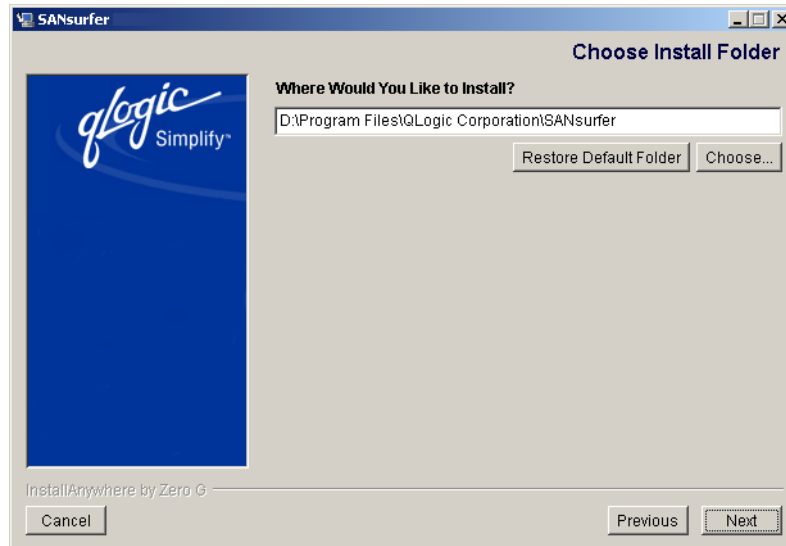

Figure 5-5. Choose Install Folder Dialog Box
5. The **Choose Install Folder** dialog box displays (see figure 5-5).